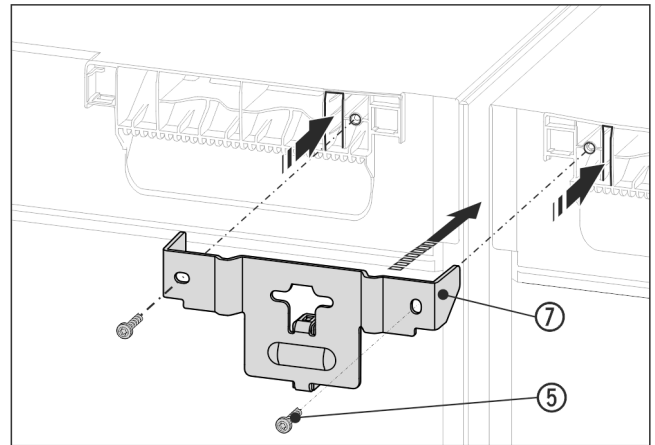

Fig. 15 Example illustration
- ▶ Slide the bracket *Fig. 15 (7)* with the spacer between the appliances and onto the appliance ceiling with the lugs. Tighten with 2 screws *Fig. 15 (5)*.